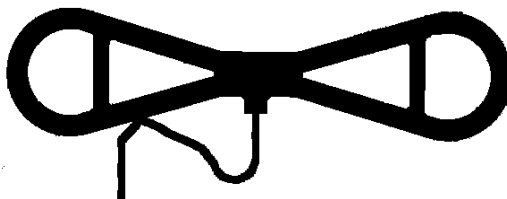

Figure 1, Antenna Tie Wrap Modification
33. Referring to Figure 1, measure back 4" from the connector that attaches to the Figure 8 Loop. Place that point on the cable next to the Figure 8 Loop and place a Cable Tie (5878-0016) on it. This will stop the cable from being pulled out of the Antenna Cable Connector.